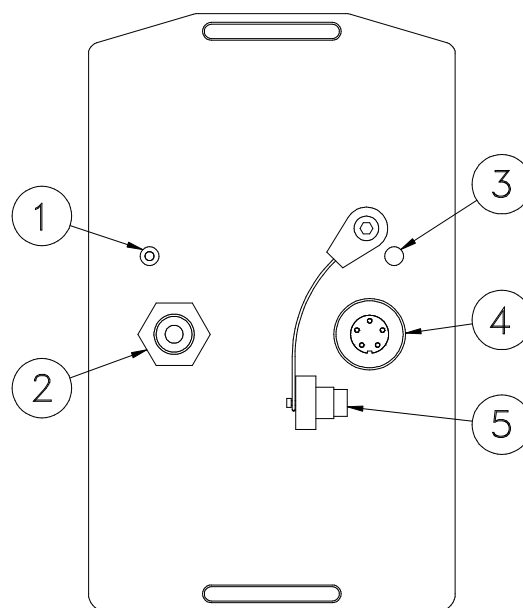
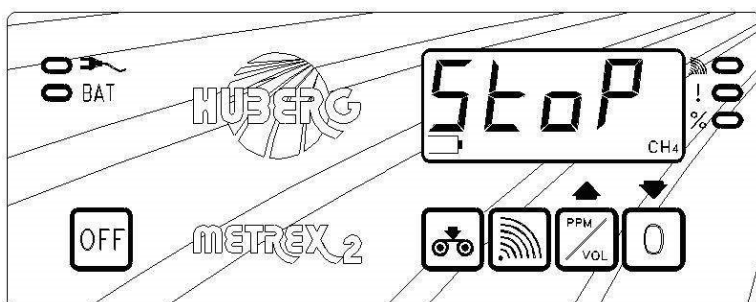

Figure 2
fig. 22
To recharge the batteries solely use the HUBERG battery charger supplied with the METREX2. Make sure that the instrument is switched off, if it is not, do that. Connect the battery charger to 220V power supply and insert the plug into the socket of the METREX2 (4) (see fig. 2). The instrument recognizes the connection and changes to recharging mode automatically, even if the device is switched off. During the recharging procedure the charging voltage is shown on the display (fig. 22).
The battery status is always displayed at the bottom left of the screen. The instrument automatically monitors the battery voltage and when the battery is nearly empty, the battery icon appears "empty". The status of "low battery" guarantee the operation of the device for 10 minutes after its appearance. After this period the metrex2 stops and in the display appear STOP (fig. 22) on the screen, the instrument must be recharged via the supplied charger. **The battery charging must be done in a safe area.**